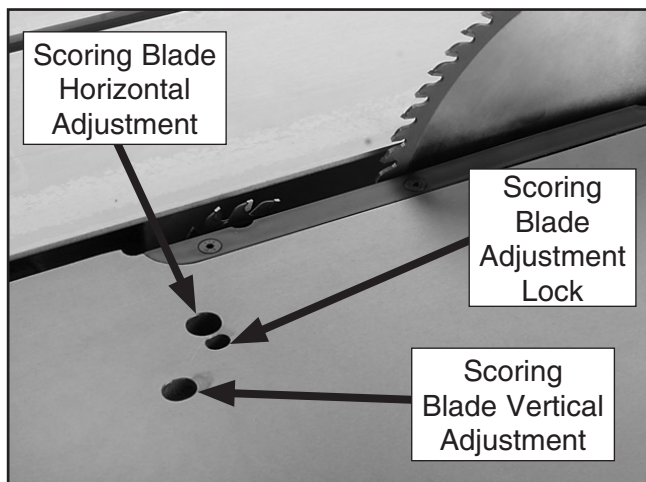

Figure 35. Scoring blade adjustment controls.
2. Unlock the scoring blade adjustment using a hex wrench in the adjustment lock socket (**Figure 35**) and raise the blade to its highest point using a hex wrench in the vertical adjustment socket.